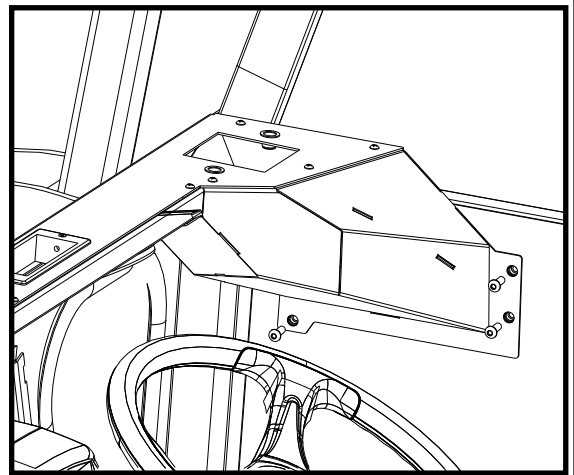

Figure 6.8: Side Frame Junction Block
- 6.8 Fasten the side frame to the cowl junction box (see Figure 6.8). Leave hardware loose.